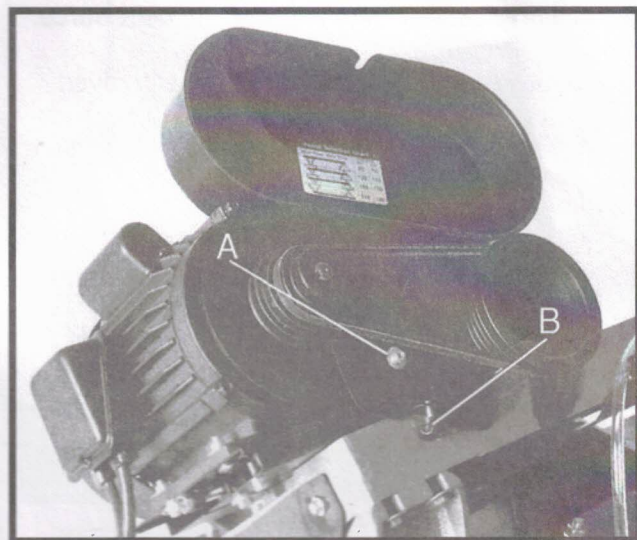

Fig. 2
5. Slide belt cover over pulley assemblies and fasten with screws and washers (A, Fig. 2).
6. Close belt cover and secure with lock knob (B).